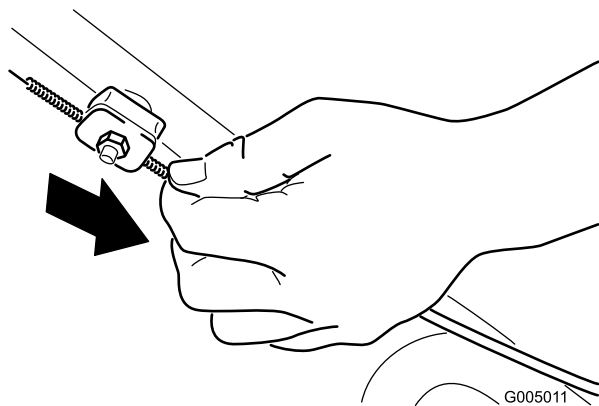

Figure 23
2. Pull down the cable jacket (toward the mower) until there is no slack in the cable (Figure 23).